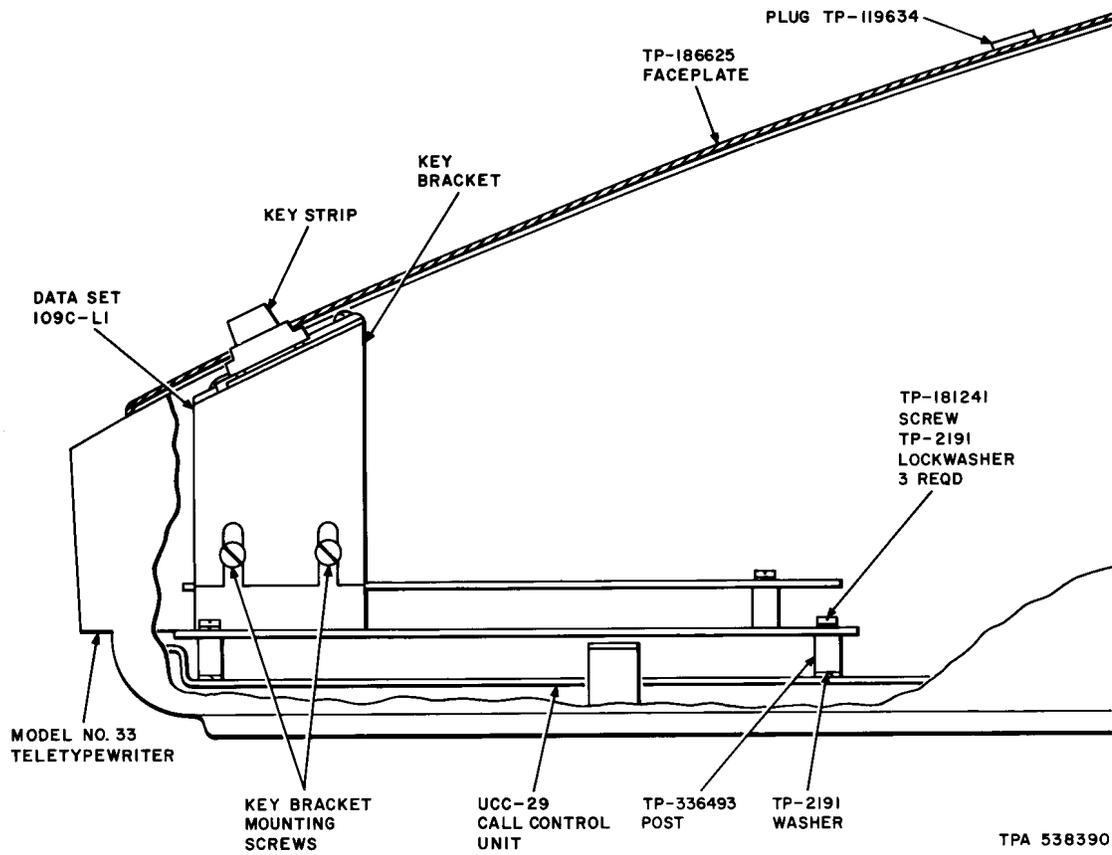

Fig. 4—Mounting Details, Data Set 109C-L1 in Model No. 33 Teletypewriter
- (c) Remove the three mounting screws (one in front center and two at the rear) which secure the data set baseplate to the posts on the call control unit (Fig. 4).
- (c) Place data set in position in front of the UCC-29 call control unit so that the screw slots in the metal bracket of the data set line up with the spacers on the UCC-29 baseplate. See Fig. 4.